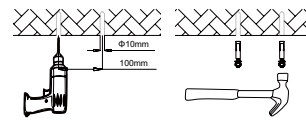

Figure 3
1. Make a mark and drill the mounting surface and fix the screws (figure 3)